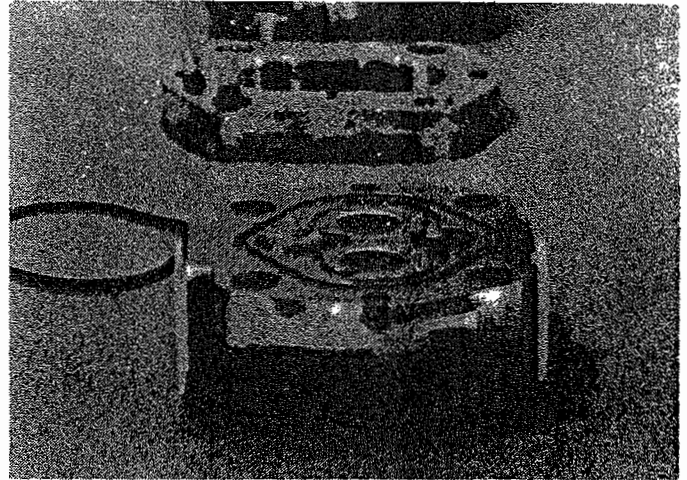

Fig. 10
13. Place cover plate (Item 1) on work bench, with o-ring groove up and matching mark toward you. (Fig. 10)